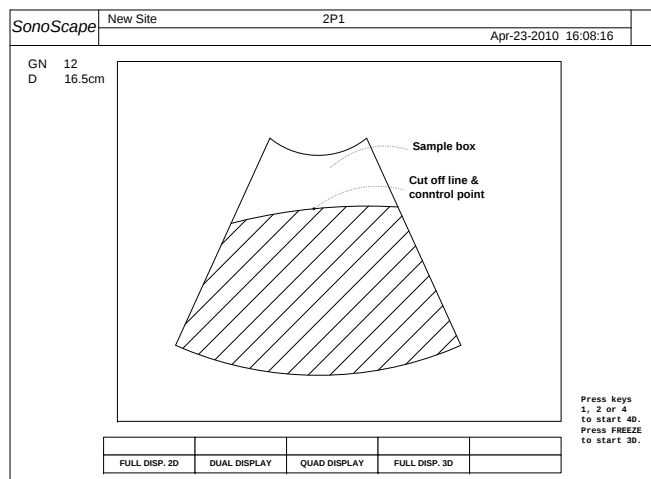

Figure 12.2: 4D mode with the **FULL DISP. 2D** format)
Connect and select a volume probe, click an application mode icon to start with B mode imaging. Press **4D** to activate the 4D mode. The screen, by default, shows a 2D image with a large *sample box* and a yellow *cut off line*. See **Figure 12.2**.
- Only the data in the area enclosed by the sample box and the cut off line (the shaded area in **Figure 12.2**) will be collected for 3D rendering.